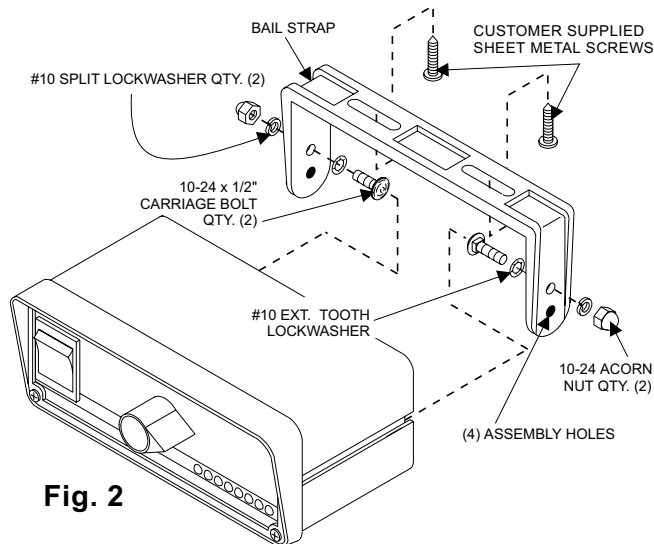

Fig. 2
NOTE: There are two sets of holes on either side of the Bail Strap that can be used when installing the TA-864S, to position the control head at 2 different heights (Fig. 2).
4. With the bail strap in place, insert the carriage bolt along with the external tooth lockwasher (supplied) into the assembly hole from the inner side of the Bail Strap (Fig. 2)